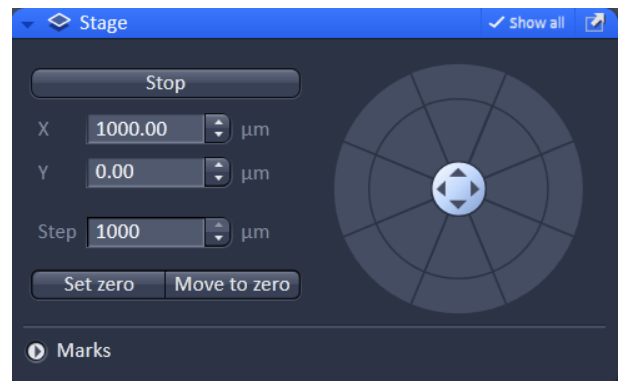

Fig. 10 Stage tool – step size X set to 1000
- a) Enter in the **Stage** tool in the **Step [μm]** input box "1000" (Fig. 10). Press the upper or lower pointing arrow of the **X** input box, whatever is required to step 1000 μm to the right X direction.